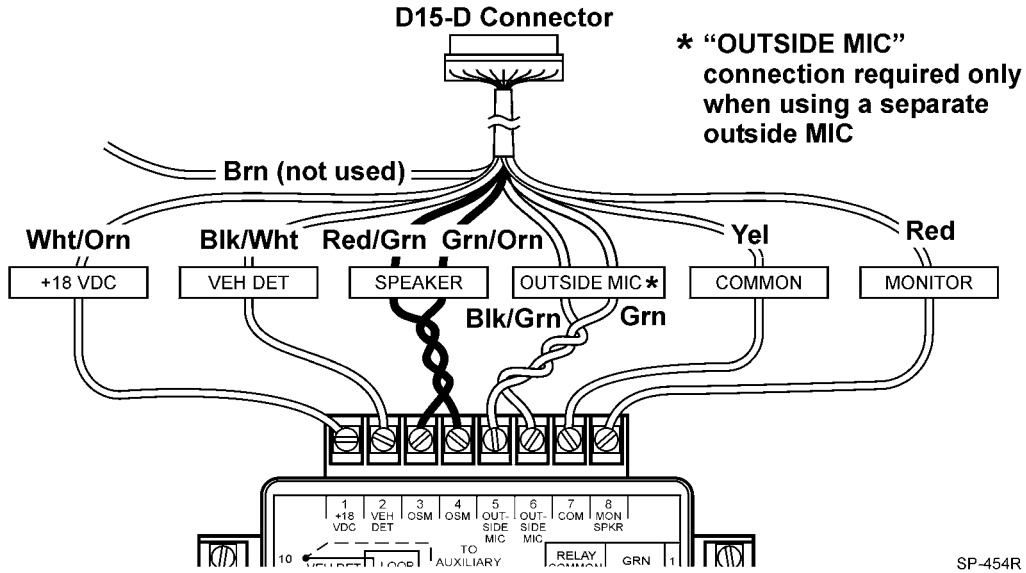
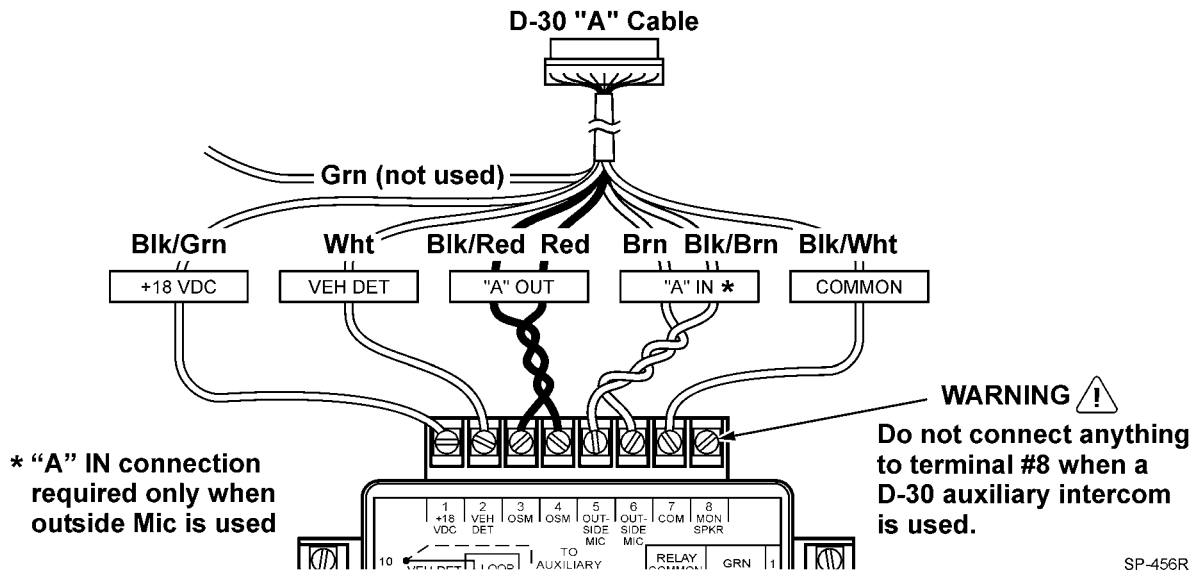

Figure 8. D-15D (M478 DA) Connections
Figure 10. D-30 Connections
| Figure 8. D-15D (M478 DA) Connections..... | 8 |
| Figure 10. D-30 Connections | 9 |
1. Connect the auxiliary intercom to the “TO AUXILIARY INTERCOM” terminals on the interconnect module as shown in Figure 8 through Figure 10 (depending on the model of intercom used).